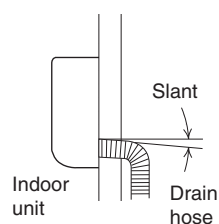

Fig. 1-88
- a) The drain hose should be slanted downward to the outdoors. (Fig. 1-88)